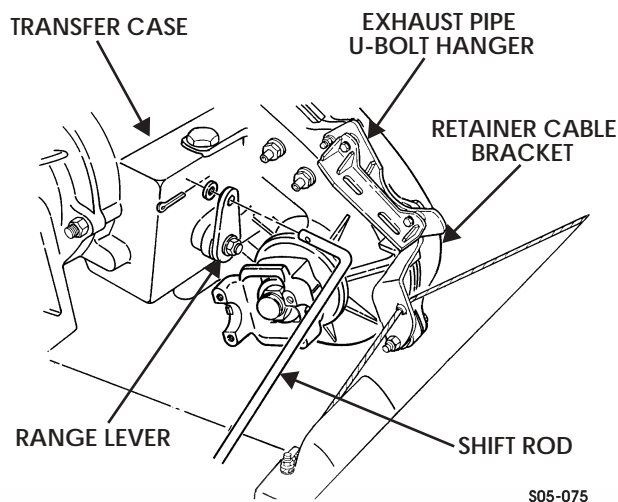

Figure 5-126: Range Lever
5. Install shift rod on range lever with washer and cotter pin (Figure 5-126).
7. Install vent line to fitting on transfer case and tighten clamp (Figure 5-126).